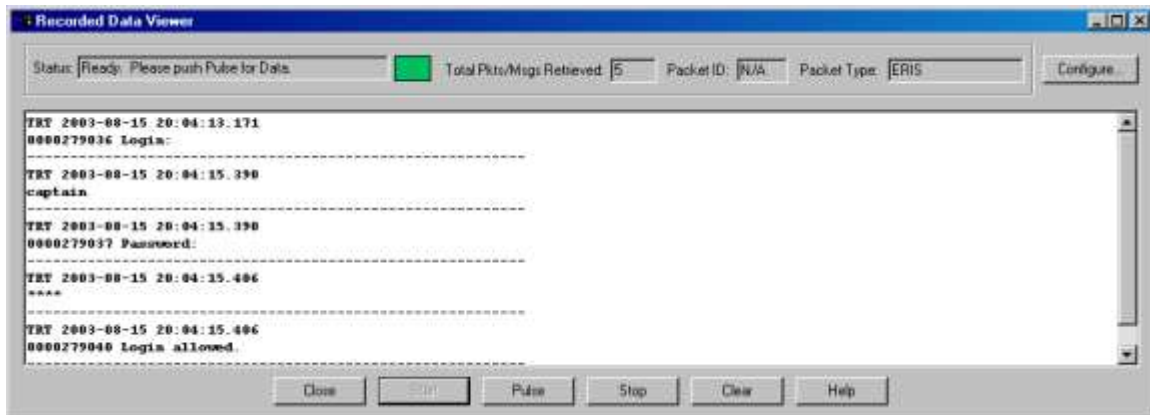

Figure 39 Recorded Data Viewer with ERIS login Data
7. In the **Recorded Data Viewer** dialog push the **Start** button. Five ERIS login messages will be displayed as shown in Figure 39. To see another 5 messages push the **Pulse** button.